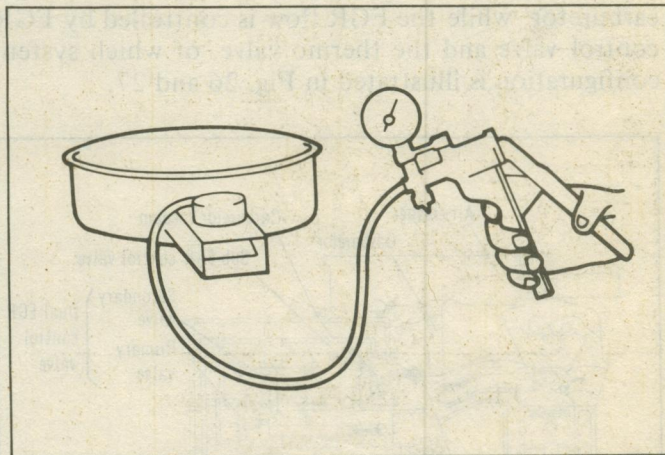

Fig. 25 Testing Vacuum Motor
(1) When the bi-metal senses the temperature inside air cleaner of below about  $29^{\circ}\text{C}$  ( $84^{\circ}\text{F}$ ), the air bleed valve of temperature sensor assembly remains closed. Then the intake manifold vacuum is applied to the diaphragm of the vacuum motor, which in turn, opens the air control valve so as to let the pre-heated intake air flows through the heat cowl and air duct into the air cleaner. (Fig. 25)
(1) Make sure all vacuum hoses and the heat cowl to air cleaner air duct are properly attached and are in good condition.
(2) With a cold engine and ambient temperature less than  $30^{\circ}\text{C}$  ( $84^{\circ}\text{F}$ ), the air control valve in the snorkel should be in the up or heat on position.
(3) With the engine warmed up and running, check the air temperature entering the snorkel or at the sensor. When the air temperature entering the outer end of snorkel is  $45^{\circ}\text{C}$  ( $113^{\circ}\text{F}$ ) or higher, the door should be in the down position (heat off).
(4) Remove the air cleaner from the engine and allow the air cleaner to cool down to  $30^{\circ}\text{C}$  ( $84^{\circ}\text{F}$ ). With 380 mm Hg. (15 in. Hg.) vacuum applied to the sensor, the valve should be in the UP (heat on) position. Should the door not rise to the heat on position, check the vacuum motor for proper operation.
(5) To test the vacuum motor, apply 250 mm (10 inches) of vacuum using pump tool number C-4207 or equivalent (Fig. 25). The valve should be in the full up position. Should the vacuum motor not perform adequately, replace air cleaner body assembly.